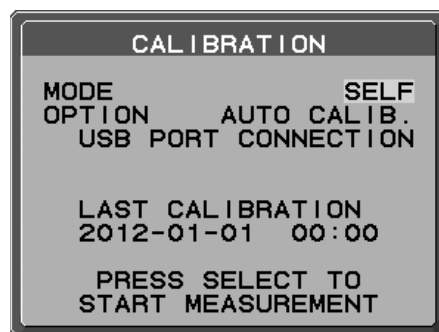

Figure S.2
2. Use "LEFT" or "RIGHT" to select SELF in the MODE selection (**Figure S.2**). Press "UP" or "DOWN" to move to the next selection.